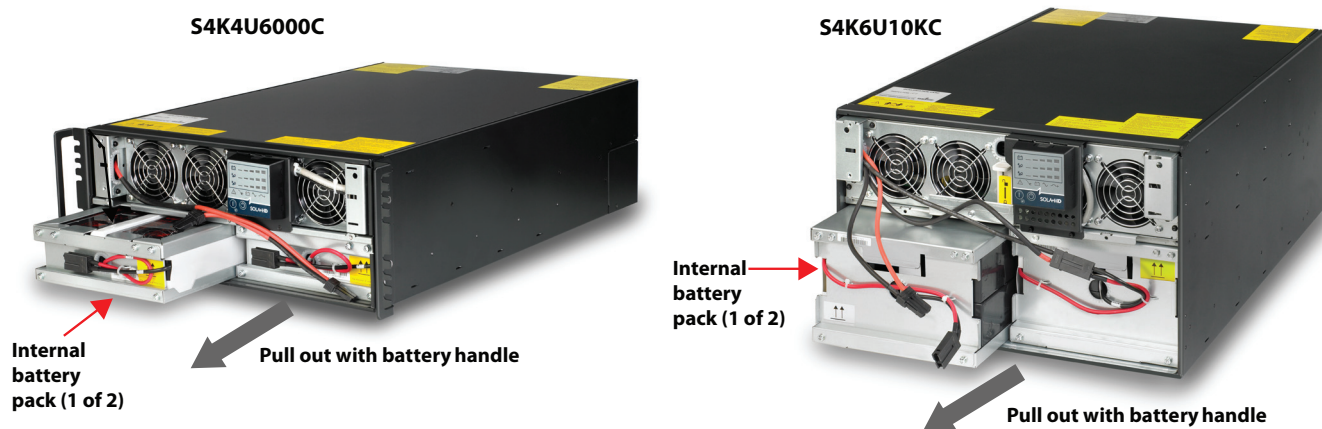

Figure 30: Pulling out the battery packs
7. Grasp the battery handle and pull one of the internal battery packs out of the UPS, as shown in Figure 30. Repeat this step if both battery packs will be replaced. Each model has two battery packs.